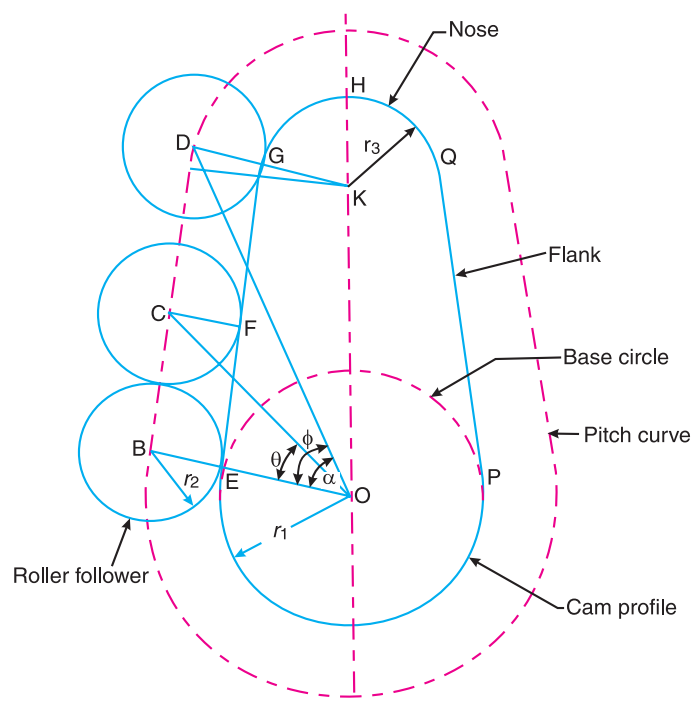

Fig. 20.40. Tangent cam with reciprocating roller follower having contact with straight flanks.
When the flanks of the cam are straight and tangential to the base circle and nose circle, then the cam is known as a **tangent cam**, as shown in Fig. 20.40. These cams are usually symmetrical about the centre line of the cam shaft. Such type of cams are used for operating the inlet and exhaust valves of internal combustion engines. We shall now derive the expressions for displacement, velocity and acceleration of the follower for the following two cases :
1. *When the roller has contact with straight flanks.* A roller having contact with straight flanks is shown in Fig. 20.40. The point O is the centre of cam shaft and the point K is the centre of nose. EG and PQ are straight flanks of the cam. When the roller is in lowest position, (*i.e.* when the roller has contact with the straight flank at E), the centre of roller lies at B on the pitch curve. Let the cam has turned through an angle* θ (less than ϕ) for the roller to have contact at any point (say F) between the straight flanks EG . The centre of roller at this stage lies at C . Therefore displacement (or lift or stroke) of the roller from its lowest position is given by